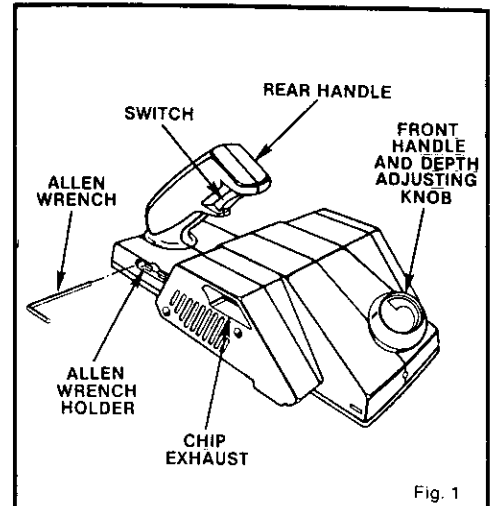
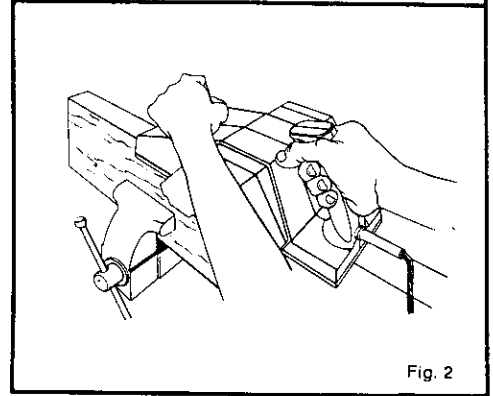
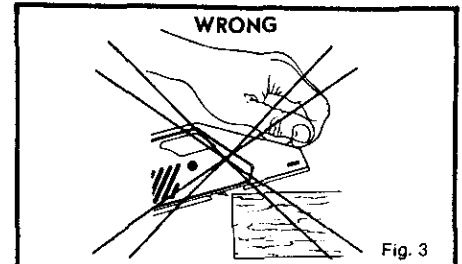

Fig. 1
Fig. 2
Fig. 3
See Figure 1.
For ease of operation your planer has both a front handle and a rear handle. See Figure 1. NOTE: The front handle also serves as the depth adjusting knob. This provides for two-hand operation, which is necessary in order to maintain proper control of your planer and keep both hands clear of the blades and cutting area. When operating your planer always use both hands holding the depth adjusting knob with your left hand and the rear handle with your right hand as shown in Fig. 2. In this position, your planer is easier to handle and you are clear of the chip exhaust.
**KNOW THE RIGHT WAY TO USE YOUR PLANER. SEE FIG. 2. NEVER USE YOUR PLANER AS SHOWN IN FIGURES 3 AND 4.**
2. Remove from storage area, the 1/8 inch allen wrench provided with your planer. See Figure 1, page 4.